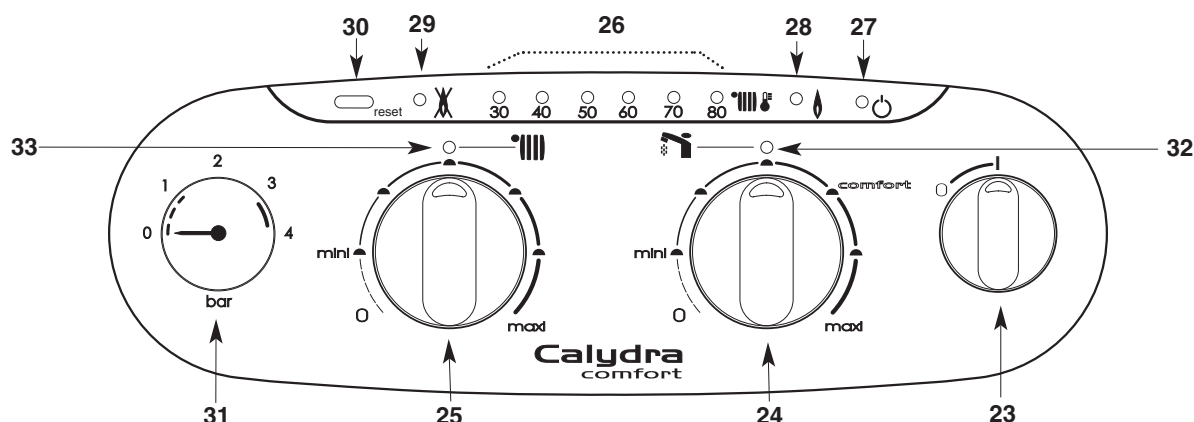
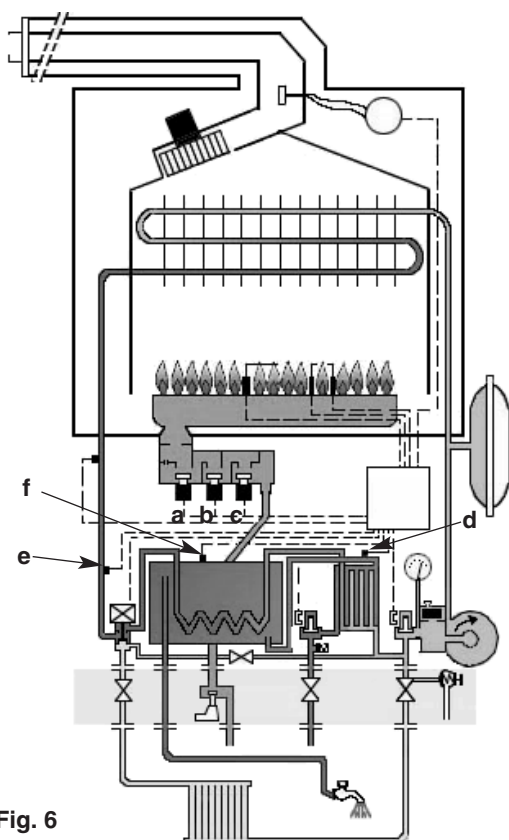

Fig.5
Fig. 6
In order to supply hot water, the main switch **23** (fig. 5) must be in ON position **I**. This will be confirmed by the green indicator light **27** (fig. 5). Turn DHW temperature adjustment knob **24** clock wise to establish the green DHW indicator **32** (fig. 5).
The hot water temperature in the mini cylinder can be adjusted between 40 and 60°C using control knob **24** (fig 5).
The first stage solenoid **a** (fig. 6) and safety solenoid **c** (fig. 6) open together to allow gas to the burner. The ignition sequence begins and a continuous high speed spark ignites the gas. As soon as a flame is detected the orange indicator bulb **28** (fig. 5) will light and the second stage solenoid **b** (fig. 6) opens to allow the full gas rate. If a flame is not detected, after 8 seconds, the security solenoid closes and shuts off the gas. The red lockout indicator bulb **29** (fig. 5) will show. Over 2 l/min, the domestic hot water temperature
is controlled by the hot water control thermistor **d** (fig. 6) and the heating control thermistor **e** (fig. 6), but dependant upon to the position of the DHW temperature adjustment knob **24** (fig. 5). This system anticipates the changes of temperature in the secondary heat exchanger and ensures accurate temperature regulation.
When the boiler has been in standby in Hot Water Mode for some time or when drawing DHW at flow rates of less than 2 l/min the temperature in the mini cylinder will eventually decrease and the TSS® control thermistor **f** (fig. 6) will call for heat. Bringing the pump and burners to operate, until the cylinder thermistor is satisfied. this is quite normal.
To be able to supply heating, the main switch **23** (fig. 5) must be in **I** position. This will be confirmed by the green indicator light **27** (fig. 5.) Turn the temperature control knob **25** clock wise to establish the green heating indicator **33** (fig. 5).
When there is a demand for heating (either from the room thermostat or the clock) and the boiler temperature control is calling for heat. The pump starts allowing the ignition sequence to begin. The first stage solenoid **a** (fig. 6) and safety solenoid **c** (fig. 6) open together to allow gas to the burner. The ignition sequence begins and a continuous high speed spark ignites the gas. As soon as a flame is detected the orange indicator bulb **28** (fig. 5) will light. After 45 seconds the second stage solenoid **b** (fig. 6) opens to allow the full gas rate. If a flame is not detected, after 8 seconds, the security solenoid closes and shuts off the gas. The red lockout indicator bulb **29** (fig. 5) will show.
The central heating flow temperature is controlled by the central heating control thermistor **e** (fig. 6). The boiler has been designed to minimise cycling and will not attempt to relight for at least 3 minutes after the boiler thermostat has been satisfied (it is possible to reduce the time to 30 s if necessary). When the room thermostat is satisfied the burner will switch off and the pump will remain running for a further 4 minutes before it to stops.
**NB :** It is possible to override the 3 minute delay by pressing the RESET button **30** (fig. 5).